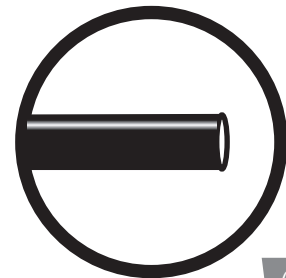

fig. 16
- a. Check the air line connection by deflating the spring and removing the line by pulling the collar against the fitting and pulling firmly on the air line. Trim 1" off the end of the air line. Be sure the cut is clean and square (see fig. 16). Reinsert the air line into the push-to-connect fitting.
2. If the preceding steps have not resolved the problem, call Air Lift customer service at (800) 248-0892.